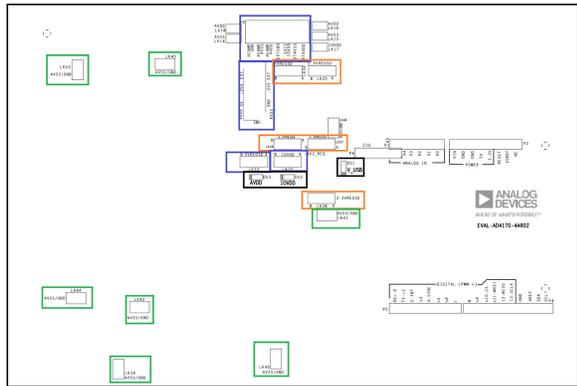

Figure 5. Power Supply Link Options
Location of AVDD, AVSS, and IOVDD control links are highlighted in blue (Figure 5).
Each regulator can be shut down using their shutdown links highlighted in orange (Figure 5).
- ▶ AVSS tied to GND (LK43 to LK50 highlighted in green, Figure 5)
- ▶ GND tied to AVSS (LK43 to LK50 highlighted in green, Figure 5)